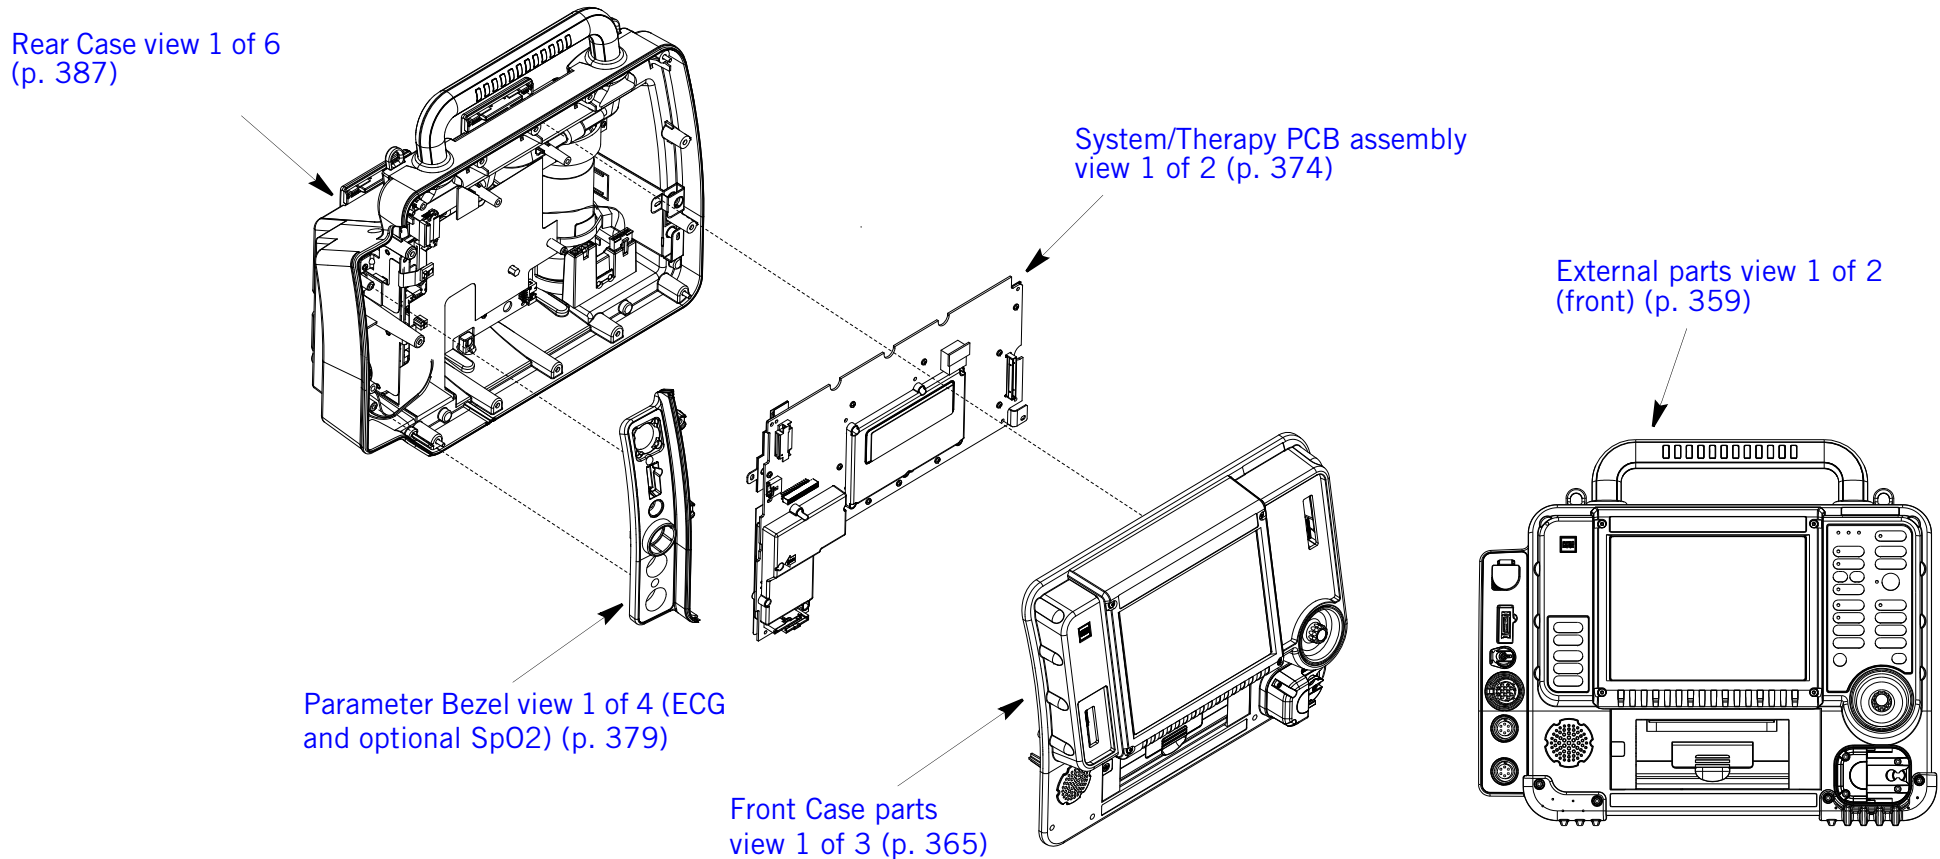

Figure 9.1—Assembly diagram configurator
- Assembly Diagram Configurator (Figure 9.1 on p. 355)—shows the main parts of the device with links to detailed assembly diagrams.